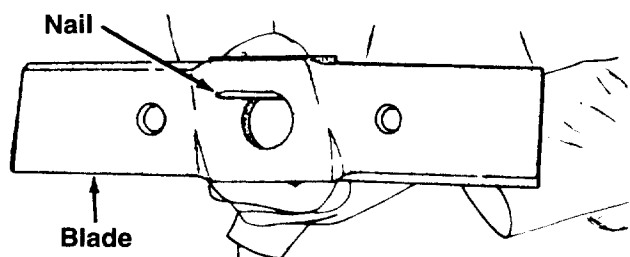

FIGURE 22.
- The blade can be tested for balance by balancing it on a round shaft screwdriver or nail. Remove metal from the heavy side until it is balanced evenly. See figure 22.